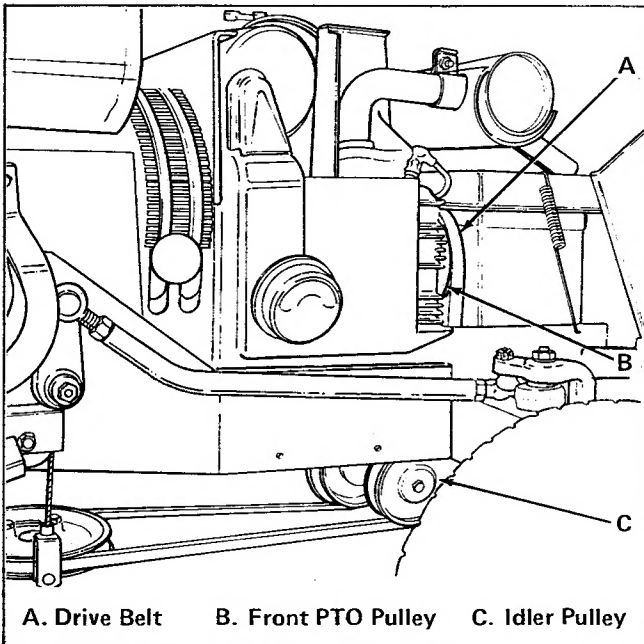

Figure 6. Mower Drive Belt
17. Raise tractor hood and install the mower drive belt (item A, figure 6) over the engine front PTO pulley (item B) and down around idler pulleys (item C). Be sure drive belt "V" is in the pulley grooves and twisted correctly.